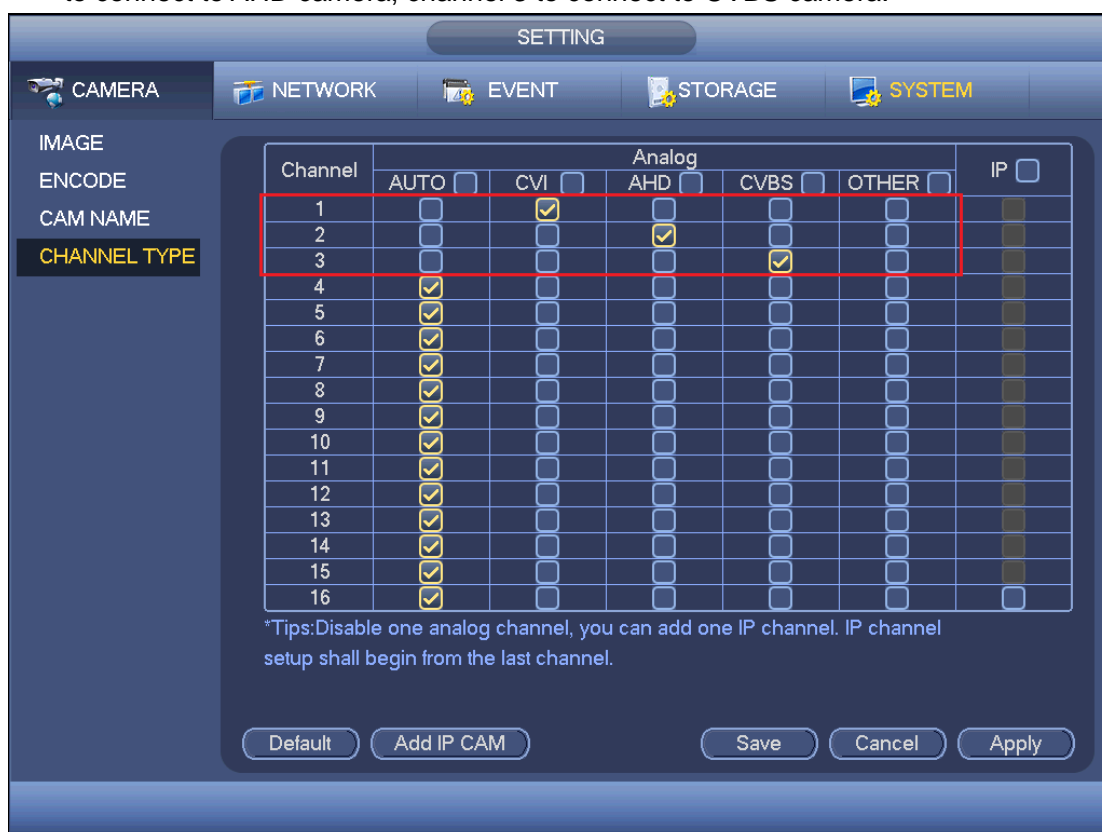

Figure 4-80
- If the auto recognition error occurred, XVR series product supports manual setup too. The manual setup featuring high recognition speed and usually there is no error. For example, in Figure 4-80, you can set channel 1 to connect to CVI camera, channel 2 to connect to AHD camera, channel 3 to connect to CVBS camera.